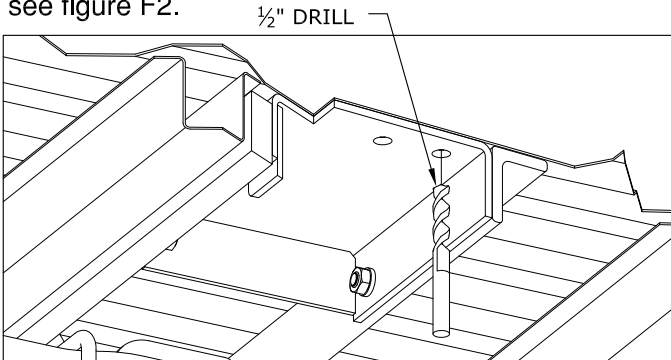

FIGURE F2: Cut away view from under the bed
- 1. Drill the holes.** From under the bed use a drill and a $\frac{1}{2}$ " drill bit to drill through the bed using the four holes that match up with a low rib in the truck as a guide. Remove any burrs created during the drilling process, see figure F2.